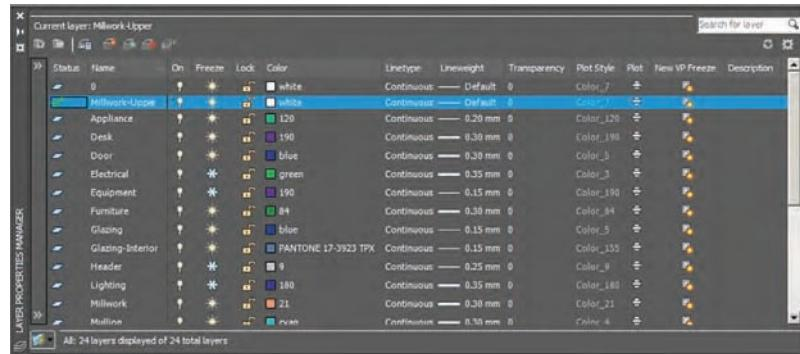

FIGURE 6.27 Maximizing the columns in the Layer Properties Manager makes them easier to read.
5. Right-click any one of the column headers to access a context menu. Choose Maximize All Columns from this menu. Figure 6.27 shows the result: the columns are all readable.